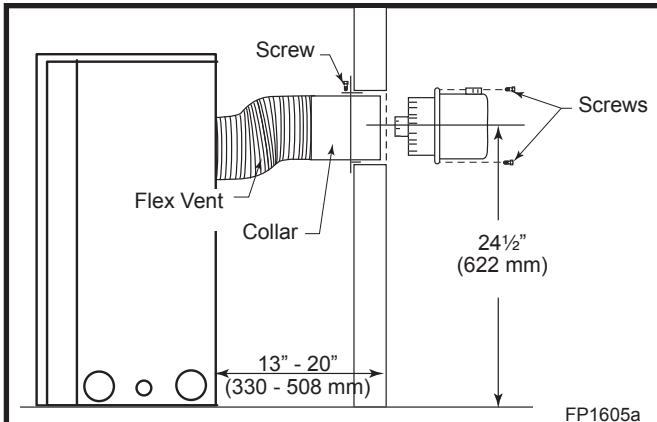

Fig. 24 The centerline of the termination must be 24½" (622 mm) off the floor.
- Determine the location of the termination. (Fig. 24)